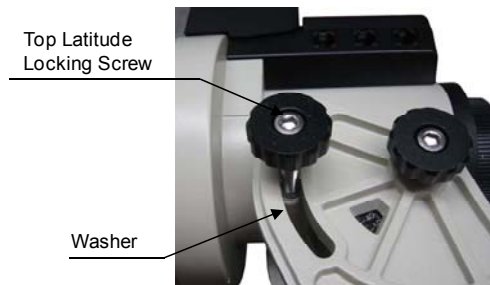

Figure 16
3. Lay down the mount head and unscrew top two (2) Latitude Locking Screws (**Figure 16**). Keep two metal washers in a safe place which will be needed when converting the mount back to EQ mode.